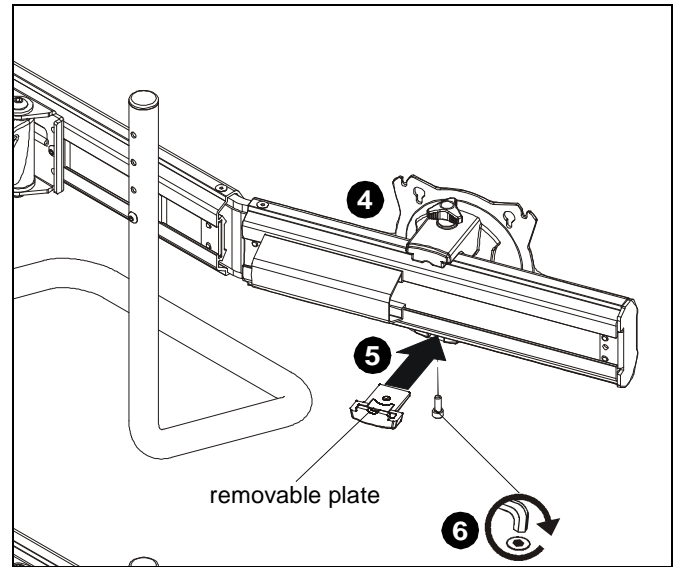

**Figure 14**
1. Remove socket head cap screw from bottom of faceplate assembly. (See Figure 14)
2. Slide out removable plate from bottom of faceplate assembly. (See Figure 14)
3. Remove faceplate assembly from array arm. (See Figure 14)